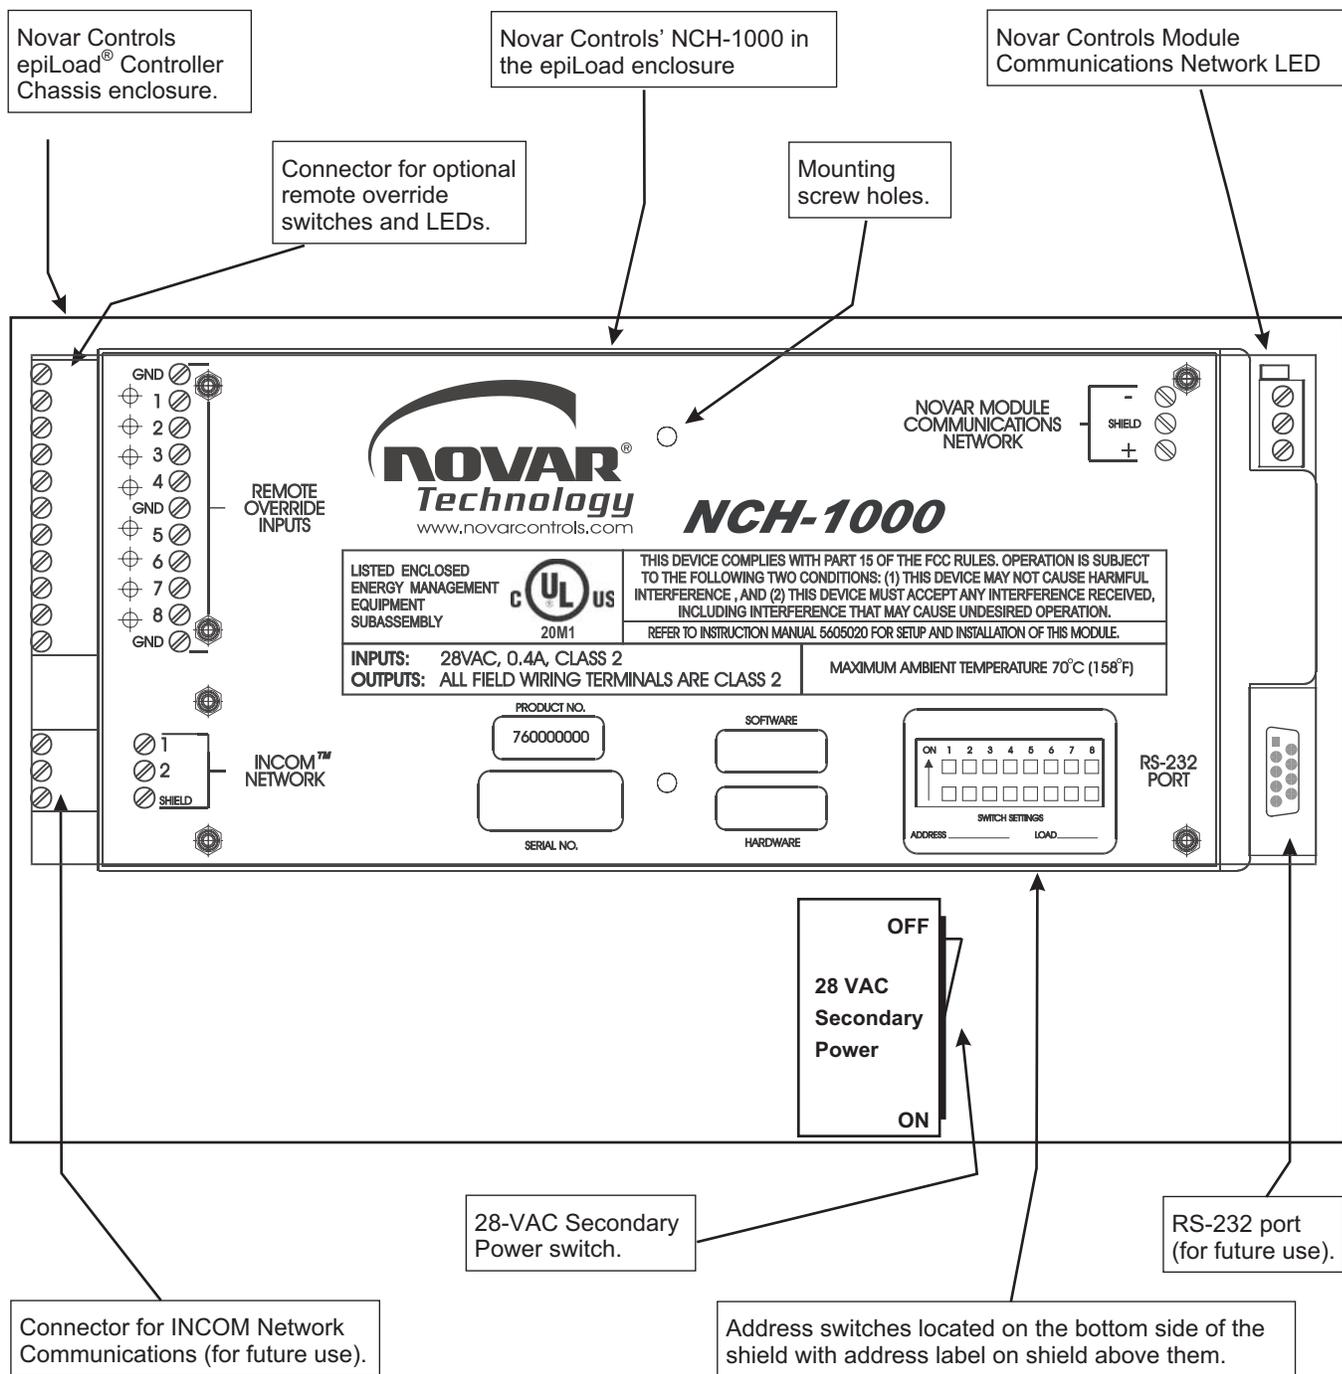

Figure 1. Novar Controls epiLoad Controller Chassis with NCH-1000 installed
- Check to make sure that no more than 28–30 volts AC power is available at the 28-VAC Secondary Power switch (inside the enclosure where the NCH-1000 is to be installed; see Figure 1).
5	Insert a screw into each of the two mounting holes on the NCH-1000 (see Figure 1) and tighten to secure the module to the panel.